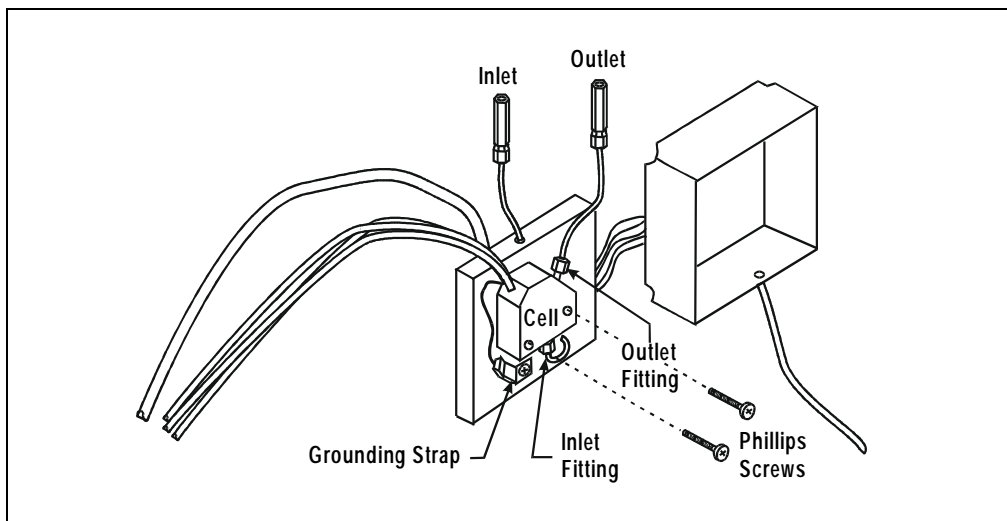

Figure 4-2. DS3 Interior Components
7. Remove the four Phillips screws securing the top of the box to its bottom plate. Carefully separate the two parts, exposing the cell (see Figure 4-2)7. Lay the top aside, being careful not to pull or stress the group of wires that connect the two parts.